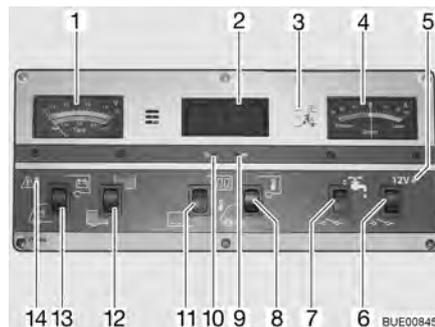

Fig. 134 Panel IT 994
With the V/tank gauge (Fig. 134,1), note the top scale. The gauge automatically lights up as soon as a switch is pressed.
- Press the lower part of the rocker switch (Fig. 134,13): The battery voltage of the starter battery is displayed.
- Press the upper part of the rocker switch (Fig. 134,13): The battery voltage of the living area battery is displayed.
The V/tank gauge is for the indication of the quantity of water or waste water. With the V/tank gauge (Fig. 134,1), use the bottom scale. The gauge automatically lights up as soon as a switch is pressed.
- Press the upper part of the rocker switch (Fig. 134,12): The volume of water is displayed.
- Press the lower part of the rocker switch (Fig. 134,12): The volume of waste water is displayed.
The red ALARM warning light (Fig. 134,14) flashes as soon as the voltage of the living area battery falls below 11 V (measured under operation) and there is a risk of a total discharge.
- Press the upper part of the rocker switch (Fig. 134,11): Digital clock display is switched on. Temperature display is ready to operate.
- Press the lower part of the rocker switch (Fig. 134,11): Digital clock display and temperature display are switched off.
- Press a thin device, such as a biro, into the opening for the hour display (Fig. 134,10) until the correct hours are displayed.
- Press a thin device, such as a biro, into the opening for the minute display (Fig. 134,9) until the correct minutes are displayed.
- Press the upper part of the rocker switch (Fig. 134,8): The internal temperature is displayed.
- Press the lower part of the rocker switch (Fig. 134,8): The external temperature is displayed.
The battery current actually flowing is permanently displayed on the current gauge (Fig. 134,4). The gauge automatically lights up as soon as a switch is pressed.
The 12 V main switch (Fig. 134,6) switches the panel and the 12 V power supply of the living area on and off.
Switching on: ■ Press the upper part of the rocker switch (Fig. 134,6): The 12 V living area power supply is switched on. The indicator lamp (Fig. 134,5) lights up green.
Switching off: ■ Press the lower part of the rocker switch (Fig. 134,6): The 12 V living area power supply is switched off. The indicator lamp (Fig. 134,5) goes out.
The 12 V indicator lamp (Fig. 134,5) illuminates whenever the 12 V main switch (Fig. 134,6) is switched on.
The yellow 230 V indicator lamp (Fig. 134,3) illuminates whenever line voltage is available at the transformer/rectifier input.
Switching on: ■ Press the upper part of the rocker switch (Fig. 134,7): The water supply is ON.
Switching off: ■ Press the lower part of the rocker switch (Fig. 134,7): The water supply is OFF.